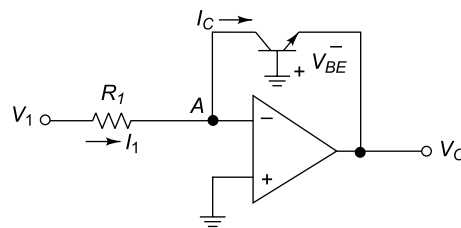

Fig. 5.51 Logarithmic amplifier
Figure 5.51 shows a logarithmic amplifier. In this circuit, collector (C) and emitter (E) terminal are connected between inverting terminal and output. Base of transistor (BJT) is grounded. The inverting terminal, A is virtually ground and $V_A = 0$